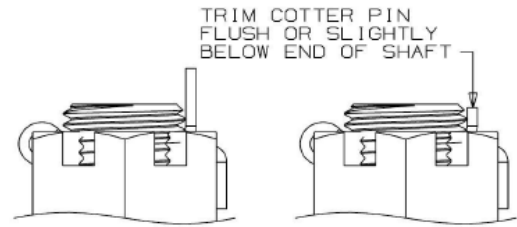

Figure 6: Install the Cotter Pin
6. Install a new cotter pin through the castellated nut. Bend the short prong down and the long prong up. Trim the long prong flush or below the end of the shaft (Figure 6).